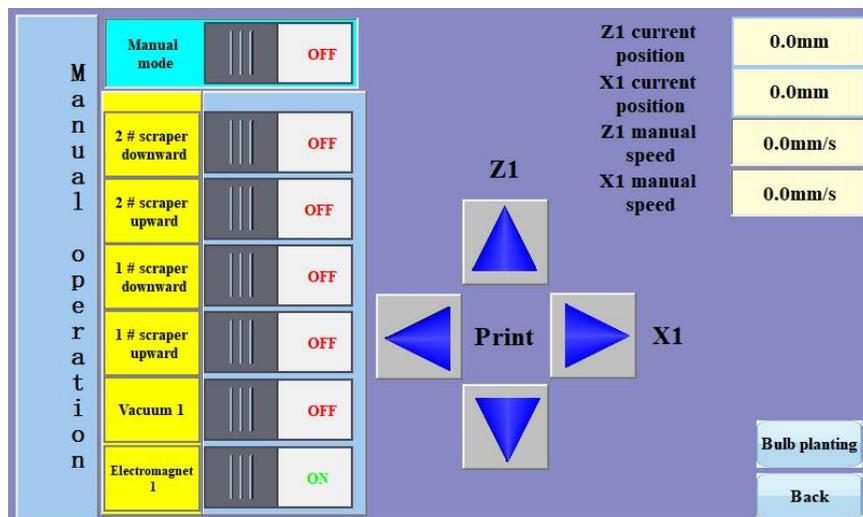

Figure 11
② Manual interface: Click the next manual interface to enter the printing manual interface, as shown in Figure 11.